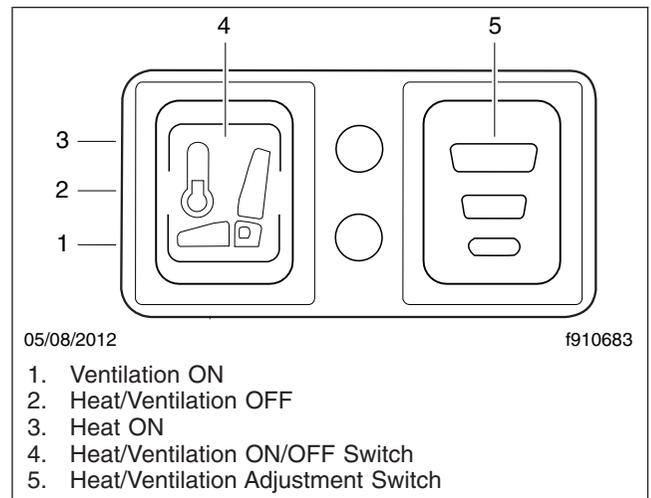

Fig. 9.3, High Back Seat Heat/Ventilation Controls
2. **Heat/Ventilation:** Use the forward switch to turn the seat heater and ventilation ON or OFF. To turn on the heat, push the top of the switch. To turn on the ventilation, push the bottom of the switch. To turn off the heat or ventilation, move the switch to the middle position. To adjust the heat or ventilation, Use the rear button to adjust seat heating or ventilation. Three settings are available: low, medium, and high. See Fig. 9.3.